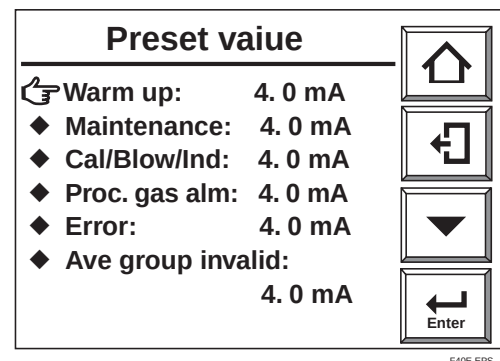

Fig. 8.10 Preset value setting
- 6) If you select Preset Value and touch the Enter key then the display shown in Fig. 8.10 appears.